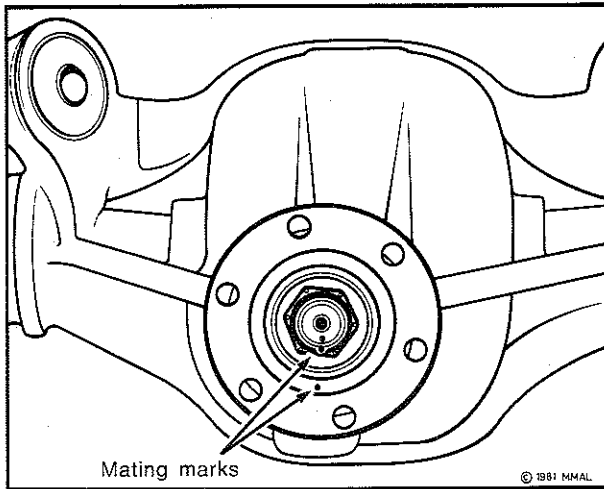

Fig. 12—Marking pinion, flange and nut
(1) Raise rear of vehicle and place stands under axle housing.
(2) Disconnect propeller shaft.
(3) Mark pinion, pinion nut and pinion flange to assist in re-assembly, refer Fig. 12.